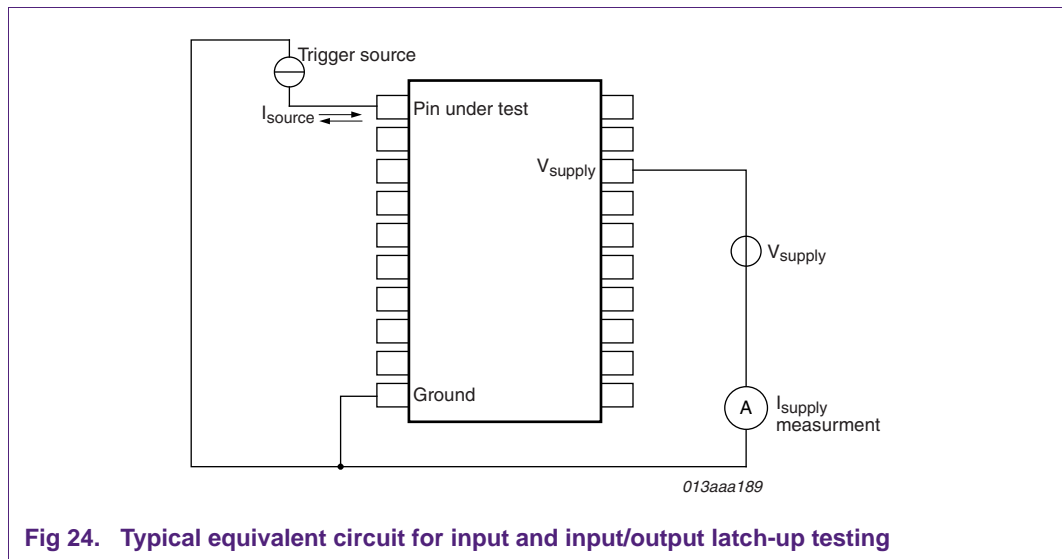

Fig 24. Typical equivalent circuit for input and input/output latch-up testing
- I-test (see testing circuit in Figure 24) where positive and negative current pulses are supplied to the input or input/output pin under test